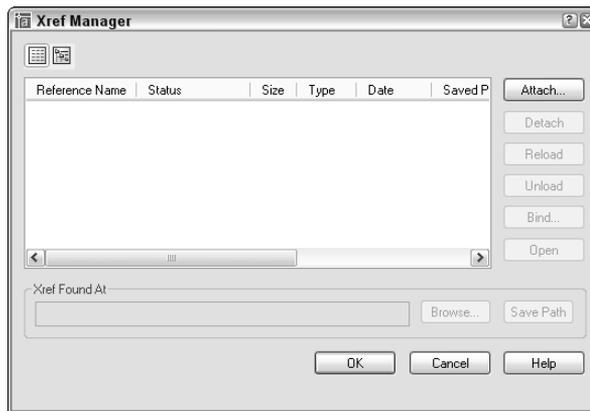

Figure 19-1: The Xref Manager.
1.  Choose External Reference from the Reference toolbar (or choose Insert ⇨ Xref Manager) to start the XREF command. The Xref Manager (shown in Figure 19-1) opens. It is your one-stop shopping mall for external references. This dialog box enables you to manage all your xrefs in one place.